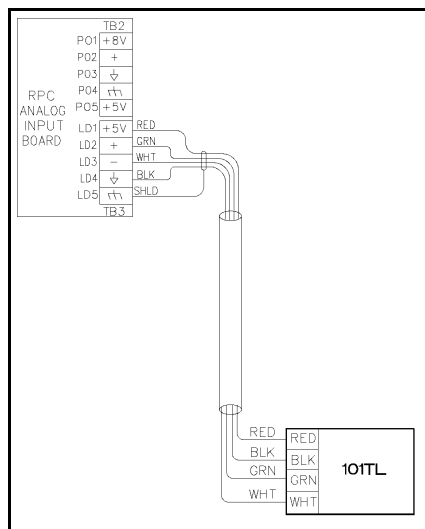
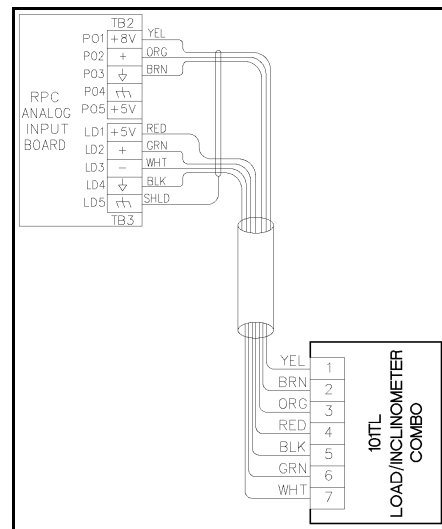

Figure 7-7. 101TL to Lufkin Well Manager RPC Wiring Diagram
Figure 7-8. 101TL Combo to Lufkin Well Manager RPC Wiring Diagram
Use the following procedures to route the cable from the 101TL beam mounted transducer to the Lufkin Well Manager RPC. Consult the wiring diagram in Figure 7-7 to wire a 101TL transducer and Figure 7-8 to wire a 101TL Combo transducer.
Lufkin Automation offers a four-conductor (Part No. 509.1301) and seven-conductor (Part No. 509.1700) shielded signal cable for load and position transducer wiring. Separate #18 AWG conductors in conduit is an acceptable alternative. If separate #18 AWG conductors are used, Lufkin Automation recommends that you use wire colors consistent with those shown in Figure 7-7 and Figure 7-8. Consistent color-coding aids in troubleshooting.
Follow the steps below and Figure 7-7 or Figure 7-8 as appropriate to wire the cable to the 101TL beam mounted transducer.
6. Connect the signal leads to the terminal strip provided in the sequence indicated in the appropriate section of Figure 7-7 and Figure 7-8.
Follow the steps below Figure 7-7 or Figure 7-8 to wire the 101TL beam mounted transducer or 101TL Combo transducer to the Lufkin Well Manager RPC.
4. Insert the wires in the appropriate terminals in **TB3** or **TB2** on the Load/Position analog input board that is plugged in to the Lufkin Well Manager RPC motherboard as indicated in Figure 7-7 or Figure 7-8.